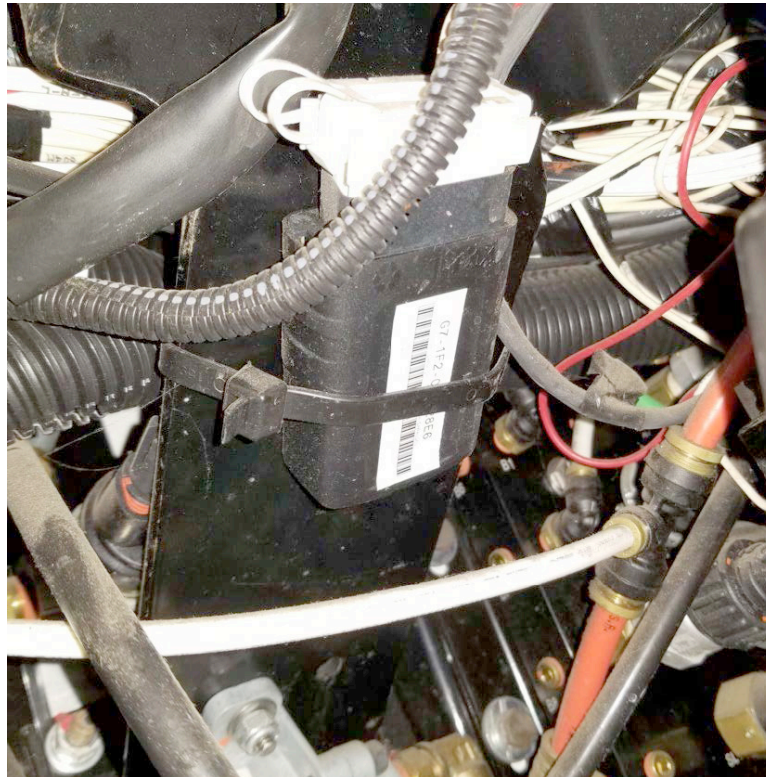

Figure 2
- Using a cable tie (obtain locally), secure the GPS device as shown. (see *Figure 2*).